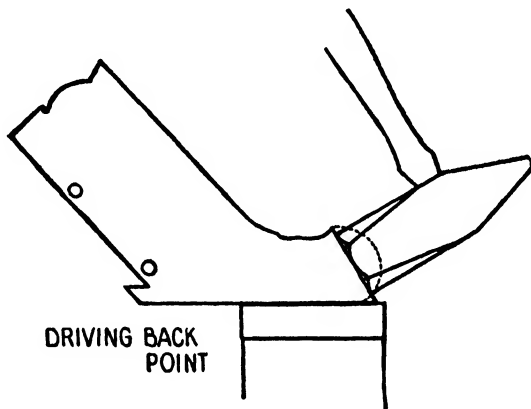

FIG. 74
2. When the end is up to a bright red heat remove it from the fire, place on an anvil bar lying flat and the share sticking straight up. In this position strike blows on the end of the point until it is square. When the point upsets place it flat on the anvil and draw it down. Fig. 74.